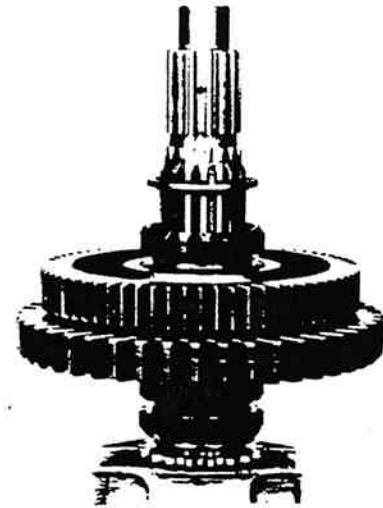

Figure 13-130. Mainshaft Repositioned in Vise.
16. Reposition mainshaft assembly in vise, pilot end up (figure 13-130).